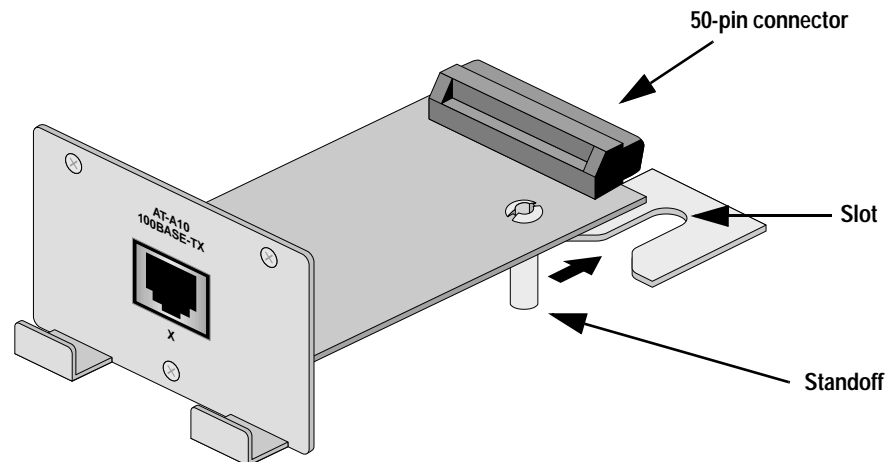
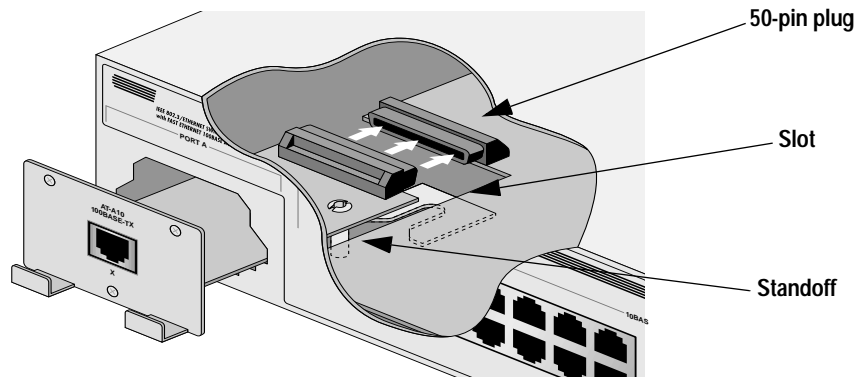

Figure 2-4 Guiding the MDA Standoff Into Its Slot
Figure 2-5 Connecting the 50-Pin Plug
The standoff on the MDA guides the adapter correctly into position so that the 50-pin plug aligns with the 50-pin receptacle on the main board. See Figure 2-4 and Figure 2-5 when performing the next step.
5. Push the MDA into position so that the front panel contacts the front of the switch's chassis. See Figure 2-4.